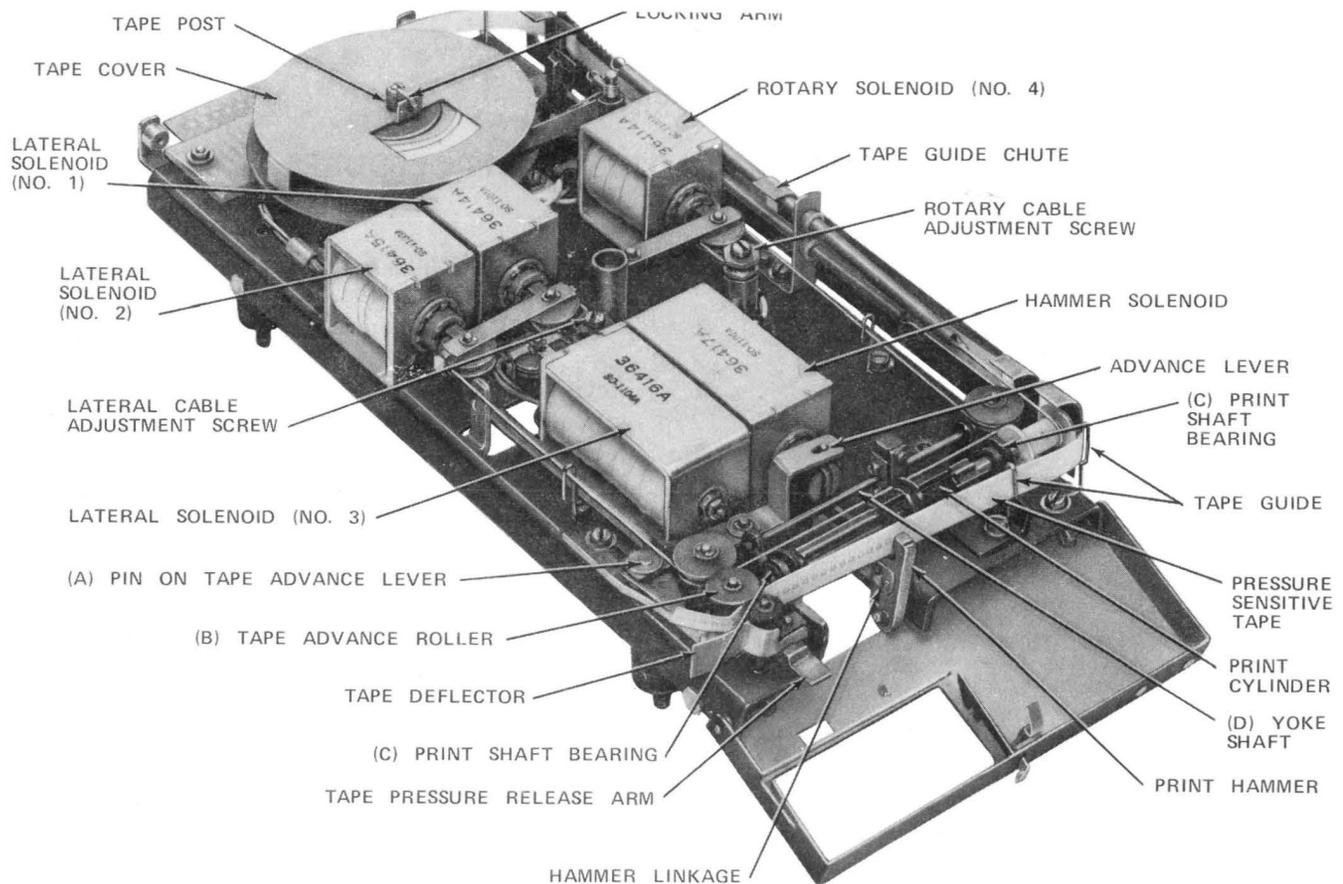

Fig. 1—KS-19717, L5, Tape Printer—Cover Removed
1.06 To show the location of component parts, the KS-19717, L5, tape printer, with cover removed, is illustrated in Fig. 1.
4.02 Lubrication: If the installation date is exceeded, the KS-19139, L4, lubricant should be applied sparingly to the following points shown in Fig. 1.